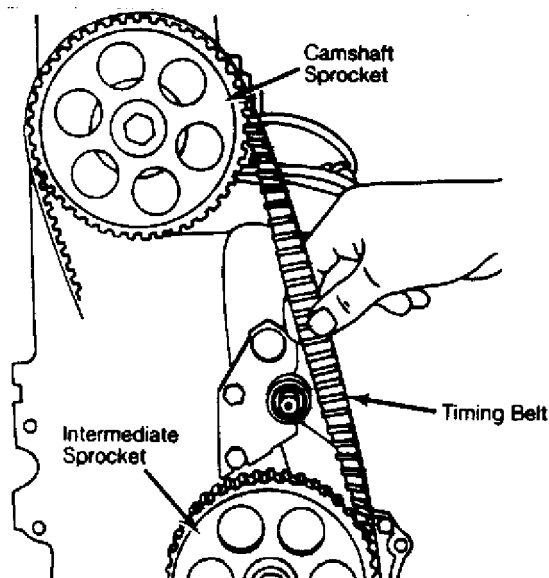

Fig. 5: Adjusting Timing Belt Tension
3) Adjust timing belt tension by turning tensioner adjusting hex clockwise against belt. Make sure shaft timing marks have not moved. Tighten tensioner lock nut and check tension of timing belt at point midway between camshaft sprocket and intermediate sprocket. See Fig. 5.